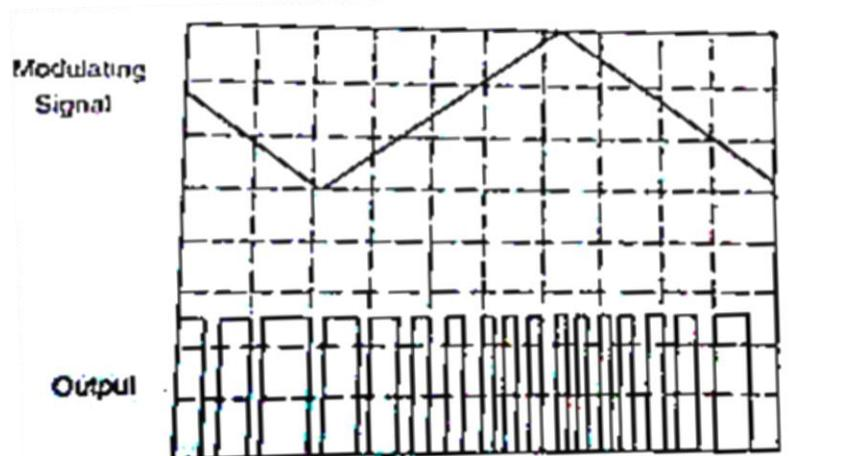

Figure 23: Pulse position modulator output
- Fig. 23 shows the output waveform generated for a triangle wave modulation signal.